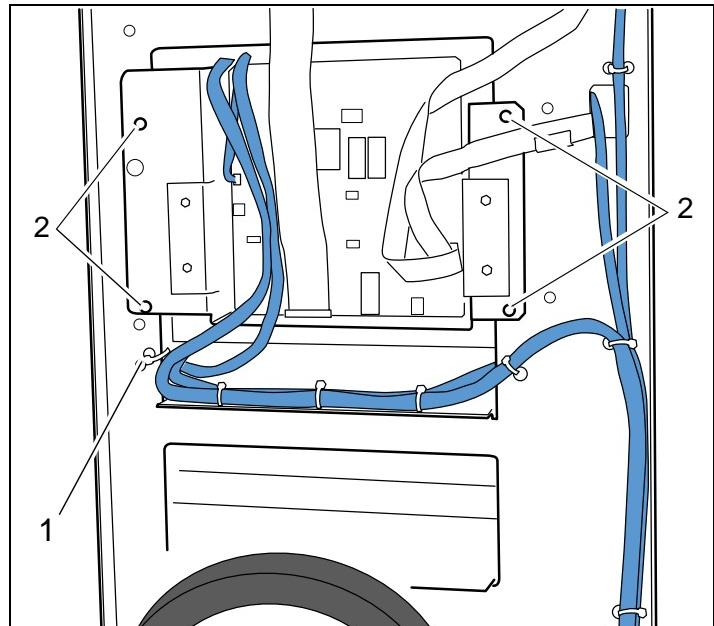

Fig. 2
- Remove cable tie (pos. 1 / Fig. 2).
- Remove the four screws for the power conversion unit (pos. 2 / Fig. 2).